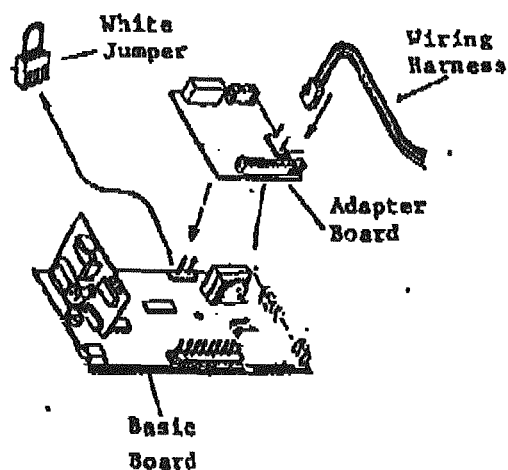

Fig. 1
- 1) Remove white jumper from basic board - see fig. 1
- 2) Press on adapter board as per fig. 1
- 3) Connect wiring harness to adapter board - see fig. 1